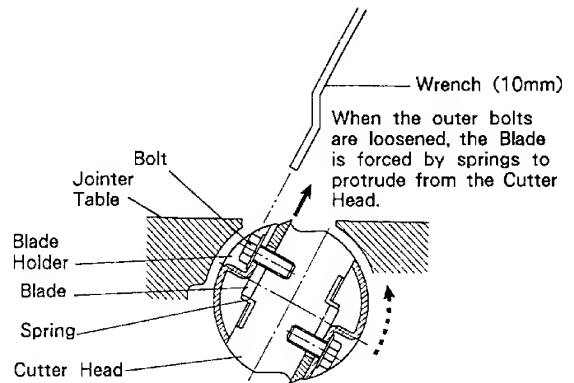

Fig. 13
**CAUTION :** When the bolts are loosened excessively, the inner springs force the Blade to protrude into the inner chamber of the Table (Fig. 13).
The blade will come out a few millimeters being pressed by the spring inside (Fig. 13).